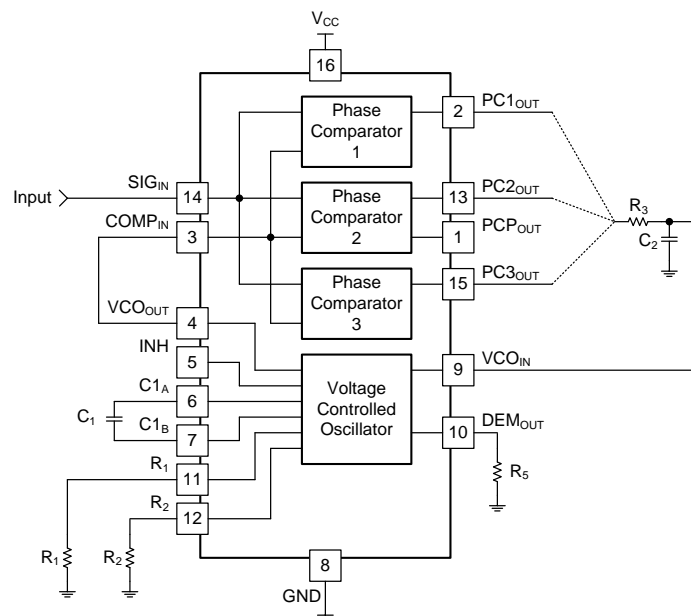

Figure 9. SN74LV4046A Digital Clock Signal Phase Comparison Application
- Phase comparator 3 (PC3) is an positive Edge-Triggered RS Flip-Flop. This is a positive edge-triggered sequential phase detector using an RS-type flip-flop. When the PLL is using this comparator, the loop is controlled by positive signal transitions and the duty factors of SIG_{IN} and COMP_{IN} are not important. The average output from PC3, fed to the VCO through the lowpass filter and seen at the demodulator at pin 10 (V_{DEMOUT}), is the resultant of the phase differences of SIG_{IN} and COMP_{IN} as shown in Figure 9.